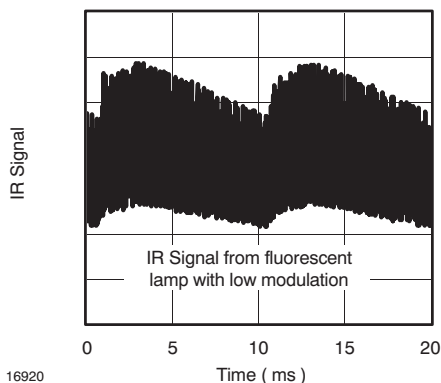

Figure 15. IR Signal from Fluorescent Lamp with low Modulation
- Signals from fluorescent lamps with electronic ballast with high or low modulation (see Figure 15 or Figure 16).